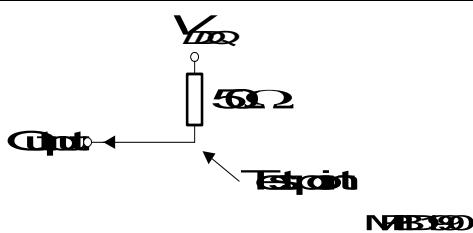

Figure 52 Pullup slew rate test load
1) Pullup slew rate is characterized under the test conditions as shown in Figure 52.
- 1) Pullup slew rate is characterized under the test conditions as shown in Figure 52